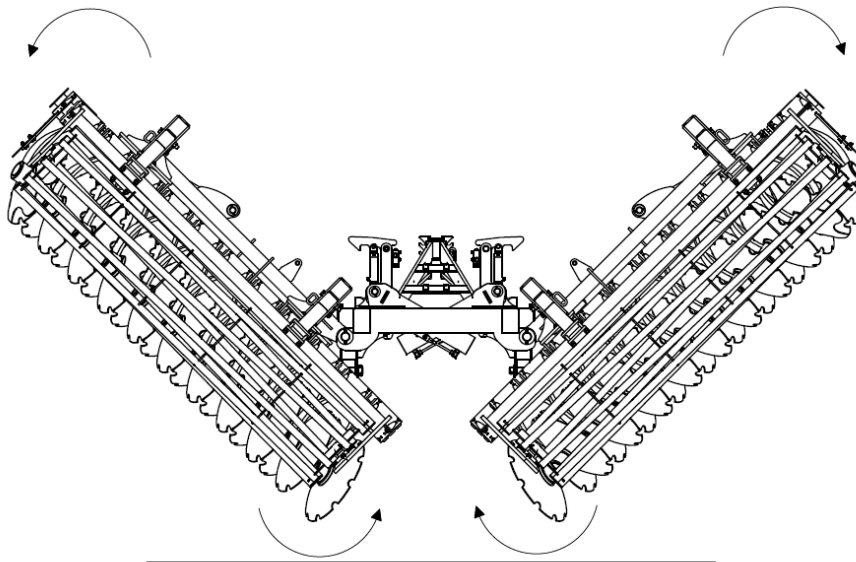

Fig. 10 Implement opening sequence: open the implement paying particular attention to the height of the arm ends from the ground.
4. When opening the implement’s side extension arms, make sure that the ends of the arms are at the correct height to prevent them from snagging on the ground (Fig. 10).